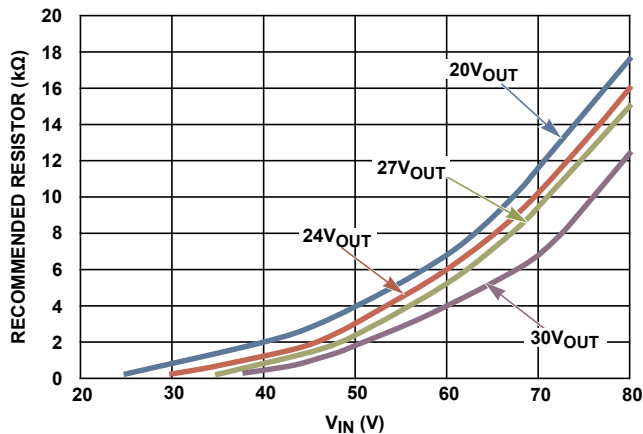
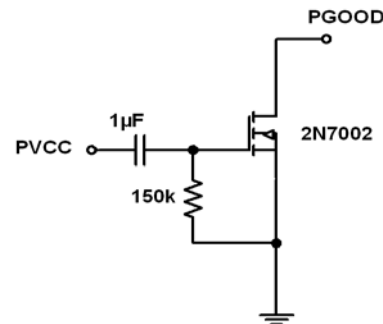

FIGURE 23. RECOMMENDED EXTERNAL RESISTOR VALUE FROM BOOT TO PVIN
FIGURE 25. PGOOD DELAY CIRCUIT
The internal bootstrap diode connected to the PVCC pin provides charge for the internal bootstrap capacitor. For above 12V_{OUT} applications, a resistor connecting between BOOT pin and VIN pin is recommended for certain conditions. Refer to Table 3. This resistor provides additional bootstrap charge introduced from V_{IN} , which can ensure the gate drive circuit functions properly at very light load. See Figure 23 for the recommended external resistor values at 20V_{OUT}, 24V_{OUT}, 27V_{OUT}, and 30V_{OUT} conditions. A minimum 0.25W power rating is recommended for this resistor.
For >12V_{OUT} applications where V_{IN} power-up/down (module self enable/disable) is required and PGOOD signal is utilized, a PGOOD delay circuit and a 1kΩ, 1W rating dummy load resistor are recommended. The PGOOD delay circuit is shown in Figure 25. Note when the dummy load resistor is used, the resistor between V_{IN} and BOOT (Figure 23) is no longer required. During V_{IN} power-up (module self enable) for >12V_{OUT} applications at very light load current, without such a delay circuit, V_{OUT} may have a drop after initially reaching the target due to the lack of bootstrap charge. With such a delay circuit, the PGOOD signal can be delayed for 250ms. For applications of ≤12V_{OUT}, the PGOOD delay circuit is not required.
- Refer to Figure 23 for VIN-BOOT resistor (R_{BOOT}) value.